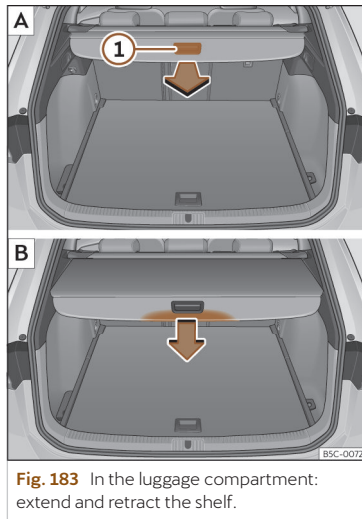

Fig. 183 In the luggage compartment: extend and retract the shelf.
- Pull evenly on the rear shelf using its handle >>> **Fig. 183** ① in a backwards direction until it audibly clicks into place.
- Press on the handle of the rear shelf in the direction of the arrow to release it >>> **Fig. 183** B.